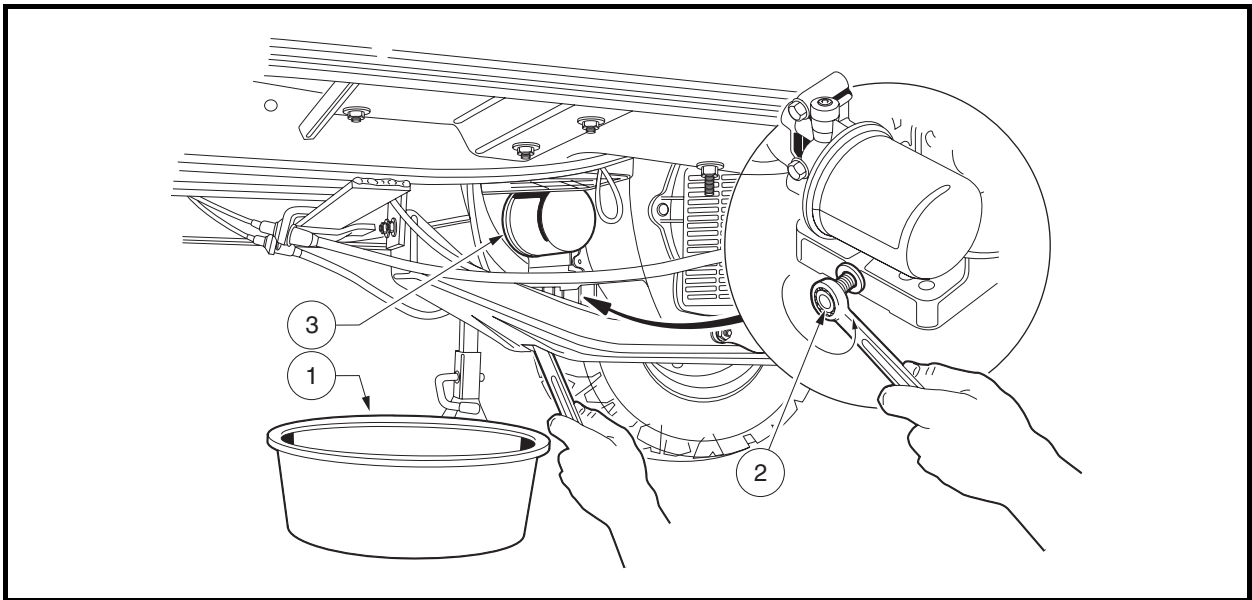

Figure 23 Engine Oil Drain Plug and Pan
4. Position a pan designed for oil changes under the front drain plug (**Figure 23**).
(1) Drain Pan (2) Drain Plug (3) Oil Filter
- Relocate the oil drain pan to a position under the engine oil filter (**Figure 23, Page 42**).
NOTE: An oil drip guard can be used to prevent excess oil from dripping into the engine base plate. Use an empty quart (one liter) container and cut the bottom off at an angle, then slide the open area of the container up and under the oil filter prior to removing. Position the port of the plastic container so oil will be directed into the oil pan (**Figure 23**). Or, make a drip guard by folding a piece of cardboard, thin metal, or plastic under the oil filter forming a channel to direct the filter port oil into the drain pan.